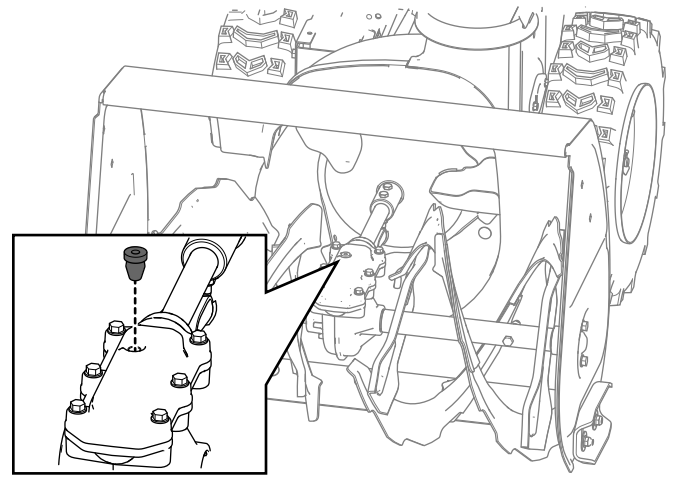

Figure 28
2. Clean the area around the pipe plug and remove the pipe plug from the gearbox (Figure 28).